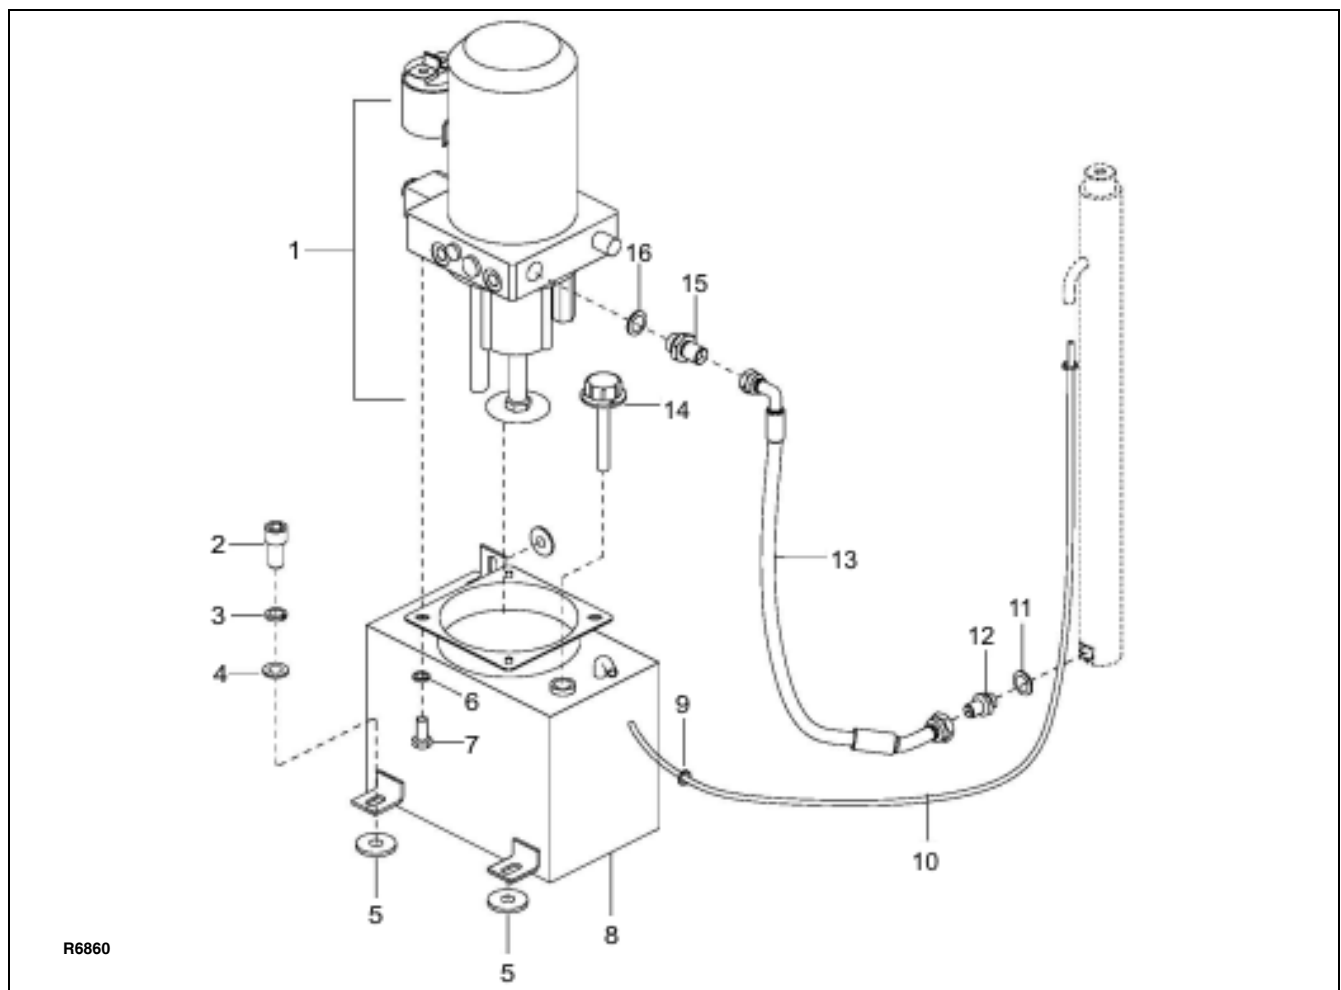
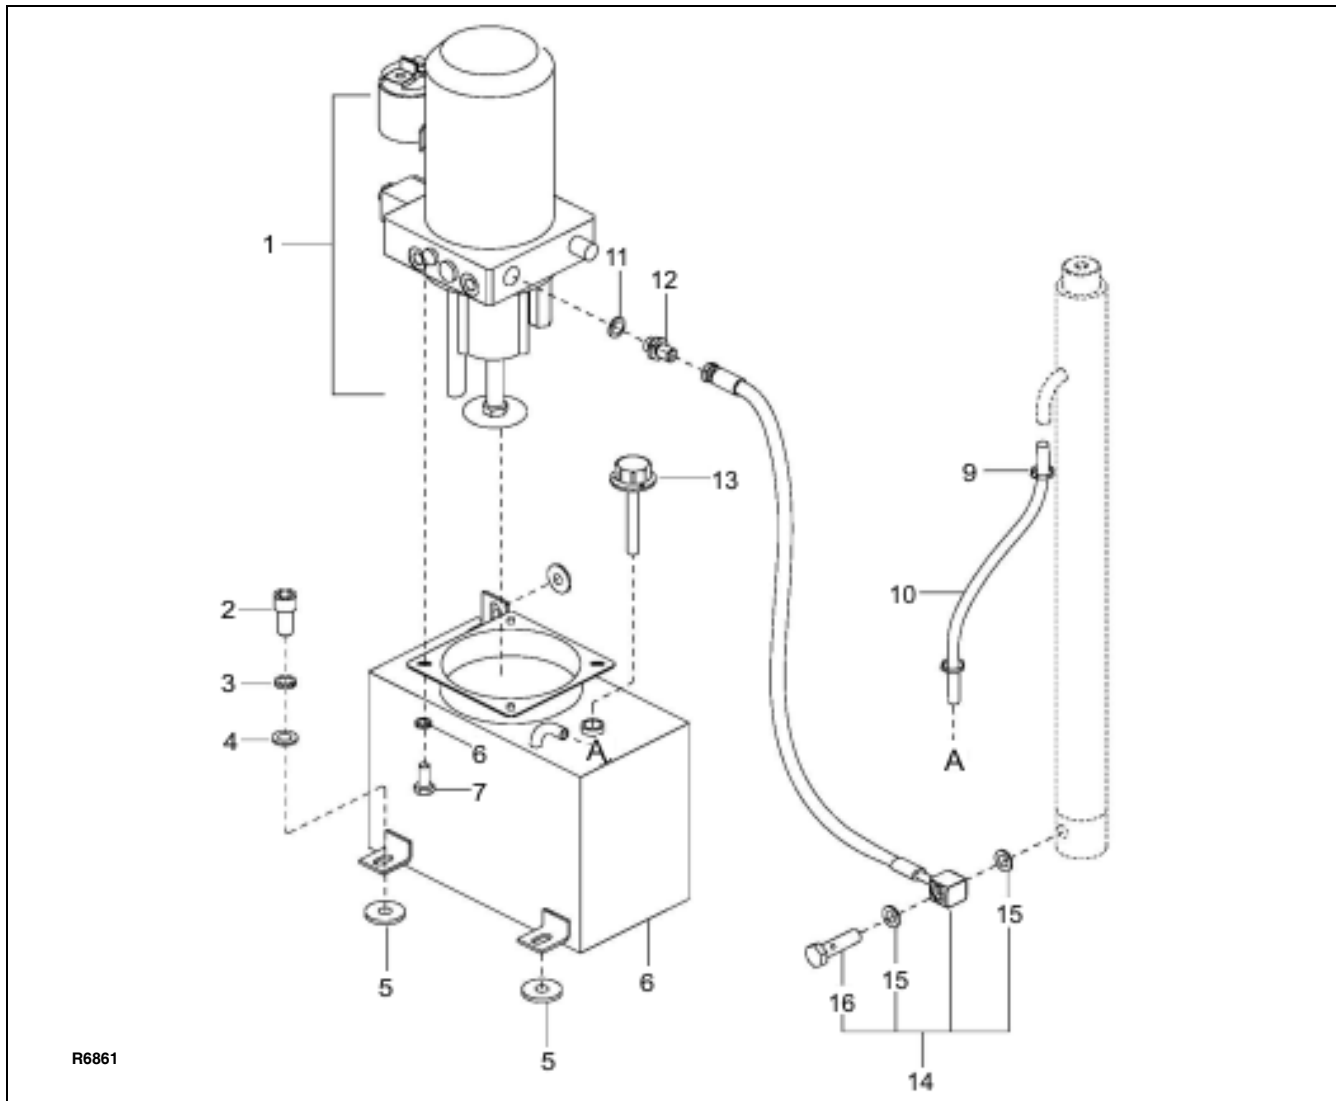

Figure 9-1 Hydraulic System (Mono)
Figure 9-2 Hydraulic System (Telescopic)
5. **Mono Trucks:** Refer to Figure 9-1 and remove leaking line or fitting and replace it with a new line or fitting.
Telescopic Trucks: Refer to Figure 9-2 and remove leaking line or fitting and replace it with a new line or fitting.
4. Tag and disconnect electrical leads from motor and solenoid of pump/motor assembly (1, Figure 9-1 or Figure 9-2).
5. Disconnect hose (13, Figure 9-1 or 14, Figure 9-2) from pump/motor assembly (1).
6. While supporting pump/motor assembly (1), remove four screws (7) and four lock washers (6).
7. Remove the pump/motor assembly (1).
1. While supporting the pump/motor assembly (1, Figure 9-1 or Figure 9-2), install four screws (7) and four lock washers (6).
2. Reconnect hose (13, Figure 9-1 or 14, Figure 9-2) to pump/motor assembly (1).
3. Connect electrical leads to motor and solenoid of pump/motor assembly (1, Figure 9-1 or Figure 9-2).
7. Disconnect the hose (10, Figure 9-1) from the top of lift cylinder.
8. Disconnect the hose (13) from the bottom of lift cylinder and remove connector (12) and seal (11).
3. Install ram head (5) on top of cylinder (11) and secure with screw (6, lock washer (7) and flat washer (8).
5. Install connector (12, Figure 9-1) and seal (11).
6. Reconnect the hose (13) to the bottom of lift cylinder.
7. Reconnect the hose (10) to the top of lift cylinder.
5. Disconnect the hose (10, Figure 9-2) from the top of lift cylinder.
6. Disconnect the hose (14) from the bottom of lift cylinder.